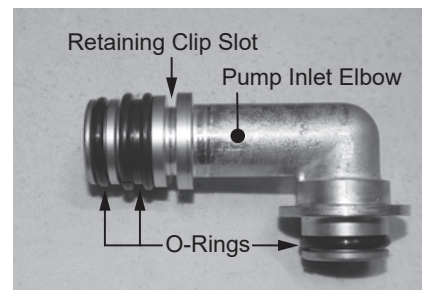

Figure 167 - Pump inlet elbow O-rings
- Locate new pump inlet elbow and three (3) O-rings provided in the kit. The pump inlet elbow uses one (1) 15 x 2.5 O-ring on the inlet side, one (1) 16 x 7 double seal O-ring on the inlet side, and one (1) 15 x 2.5 O-ring on the outlet side. Install O-rings to elbow. Install elbow to water pump and secure with retaining clip. Proceed to **Step 33** if not replacing water pump. See Figure 167.
The pump inlet elbow uses one (1) 15 x 2.5 O-ring on the inlet side, one (1) 16 x 7 double seal O-ring on the inlet side, and one (1) 15 x 2.5 O-ring on the outlet side. See Figure 167.